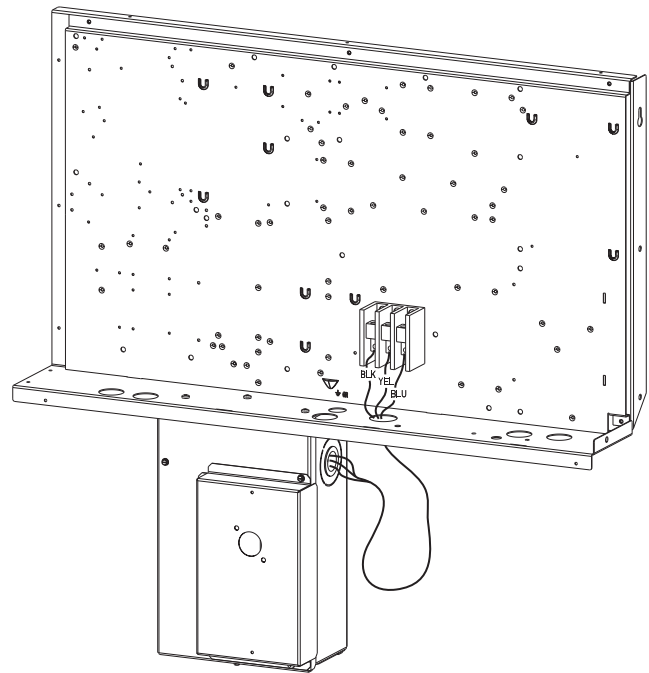
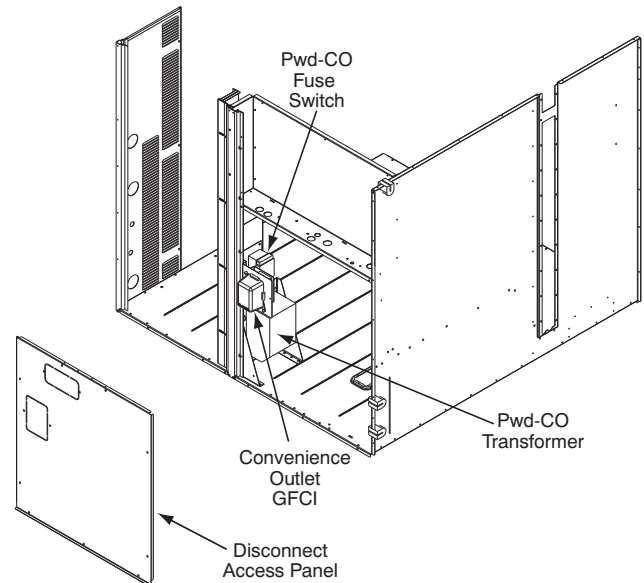

Fig. 32 — Location of Non-Fused Disconnect Enclosure
Fig. 34 — Convenience Outlet Location
UNITS WITH FACTORY-INSTALLED NON-FUSED DISCONNECT — The factory-installed option non-fused disconnect switch (NFD) is located in a weatherproof enclosure located under the main control box (see Fig. 34). The manual switch handle is shipped in the disconnect enclosure. Assemble the shaft and handle to the switch at this point. Discard the factory test leads (see Fig. 32). The factory disconnect is either an 80A or 100A depending on the unit voltage, indoor motor and options.
125-volt GFCI (ground-fault circuit-interrupter) duplex receptacle rated at 15-A behind a hinged waterproof access cover, located on the panel beneath the control box. See Fig. 34.
Unit-powered type — A unit-mounted transformer is factory-installed to stepdown the main power supply voltage to the unit to 115-v at the duplex receptacle. This option also includes a manual switch with fuse, located in a utility box and mounted on a bracket behind the convenience outlet; access is through the unit's control box access panel. See Fig. 34.
- Install power lines to terminal connections as shown in Fig. 32.